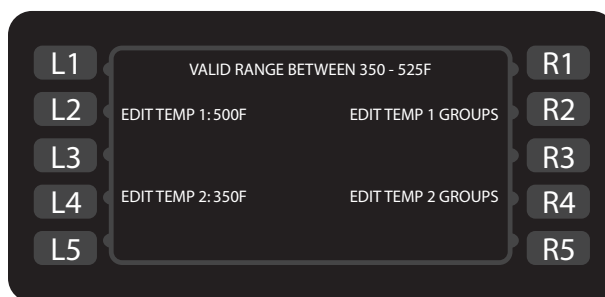

Figure 27: Temperature Edit Screen
2. Select the temperature to change by pressing the adjacent soft key (Figure 27).
2. Select a “block” of food groups by pressing the corresponding right-side soft key (Figure 27, page 19).